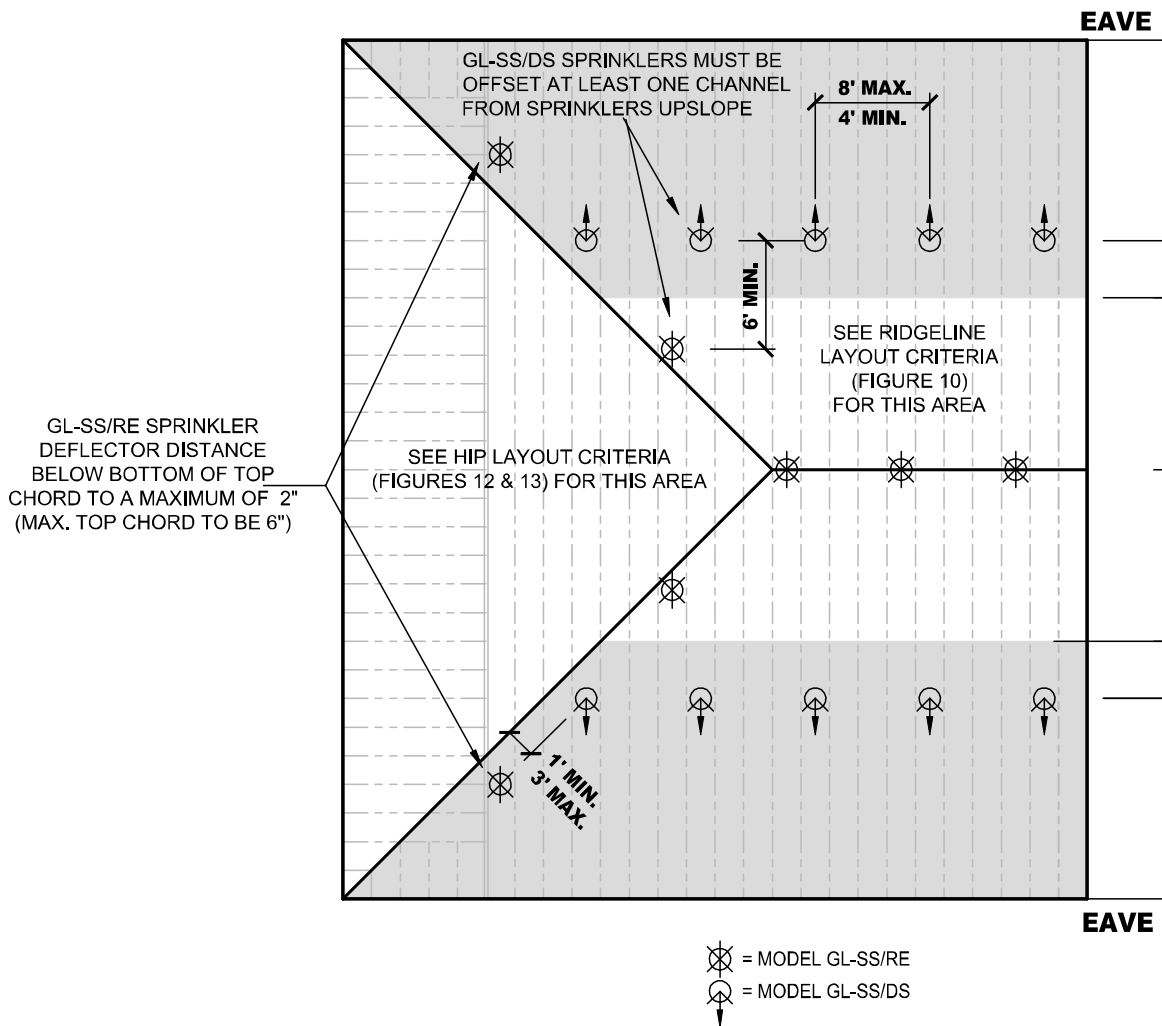

FIGURE 11: DOWNSLOPE LAYOUT CRITERIA
- These sprinklers are installed downslope from a ridge-line/peak (See Figure 11). Installed in the upright position with deflector parallel to roof deck (i.e. sprinkler centerline perpendicular to the roof slope).